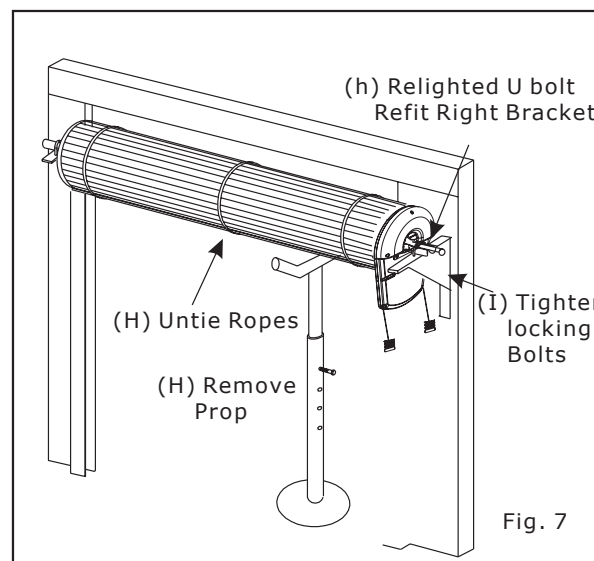

Fig. 7
- Straighten the Drive Unit and position as per Fig 7. Tighten the two locking bolts firmly to secure Drive Unit.